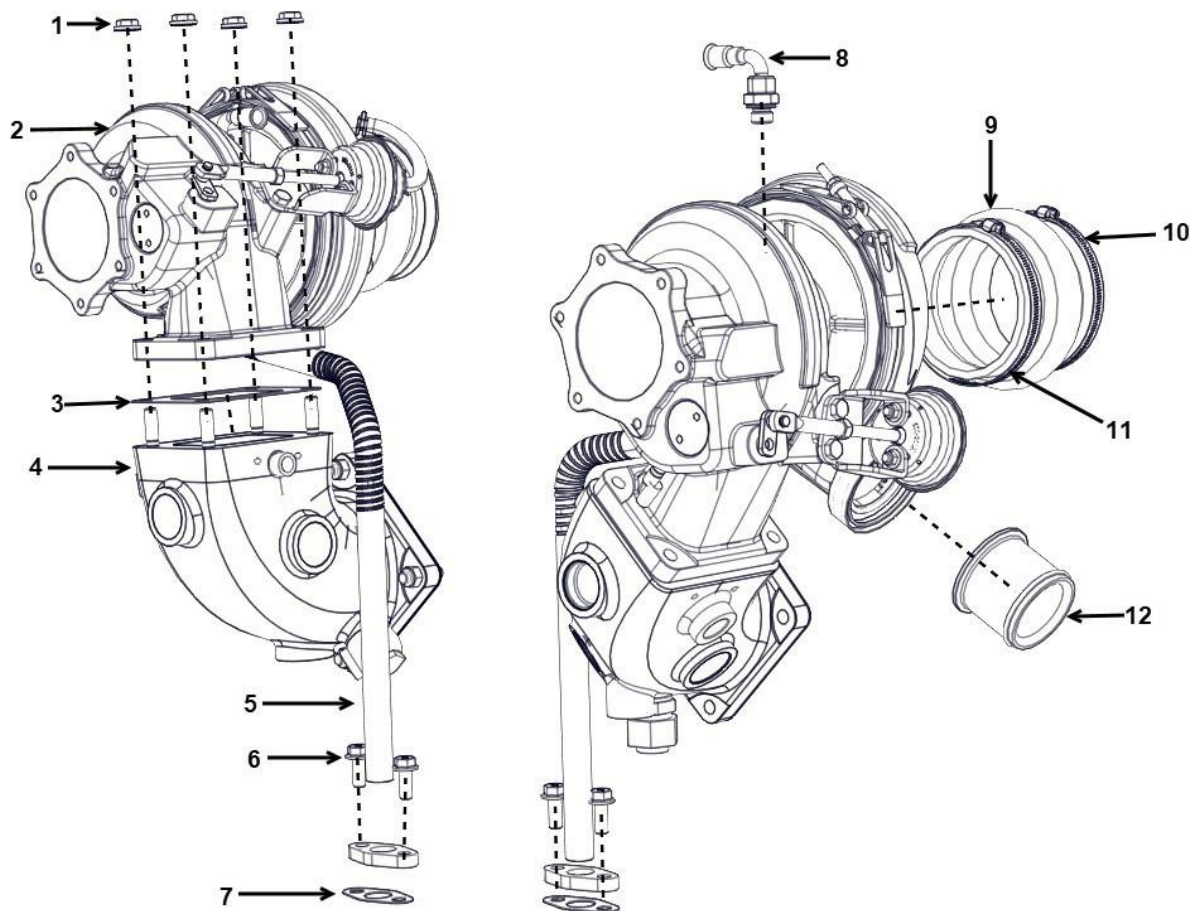

Figure 21. Turbocharger Assembly
6. Untighten both turbocharger hose clamps (10 & 11) from each turbocharger. (Refer to Figure 21.)
7. Remove the four turbocharger nuts from each turbocharger. (Refer to Figure21.)